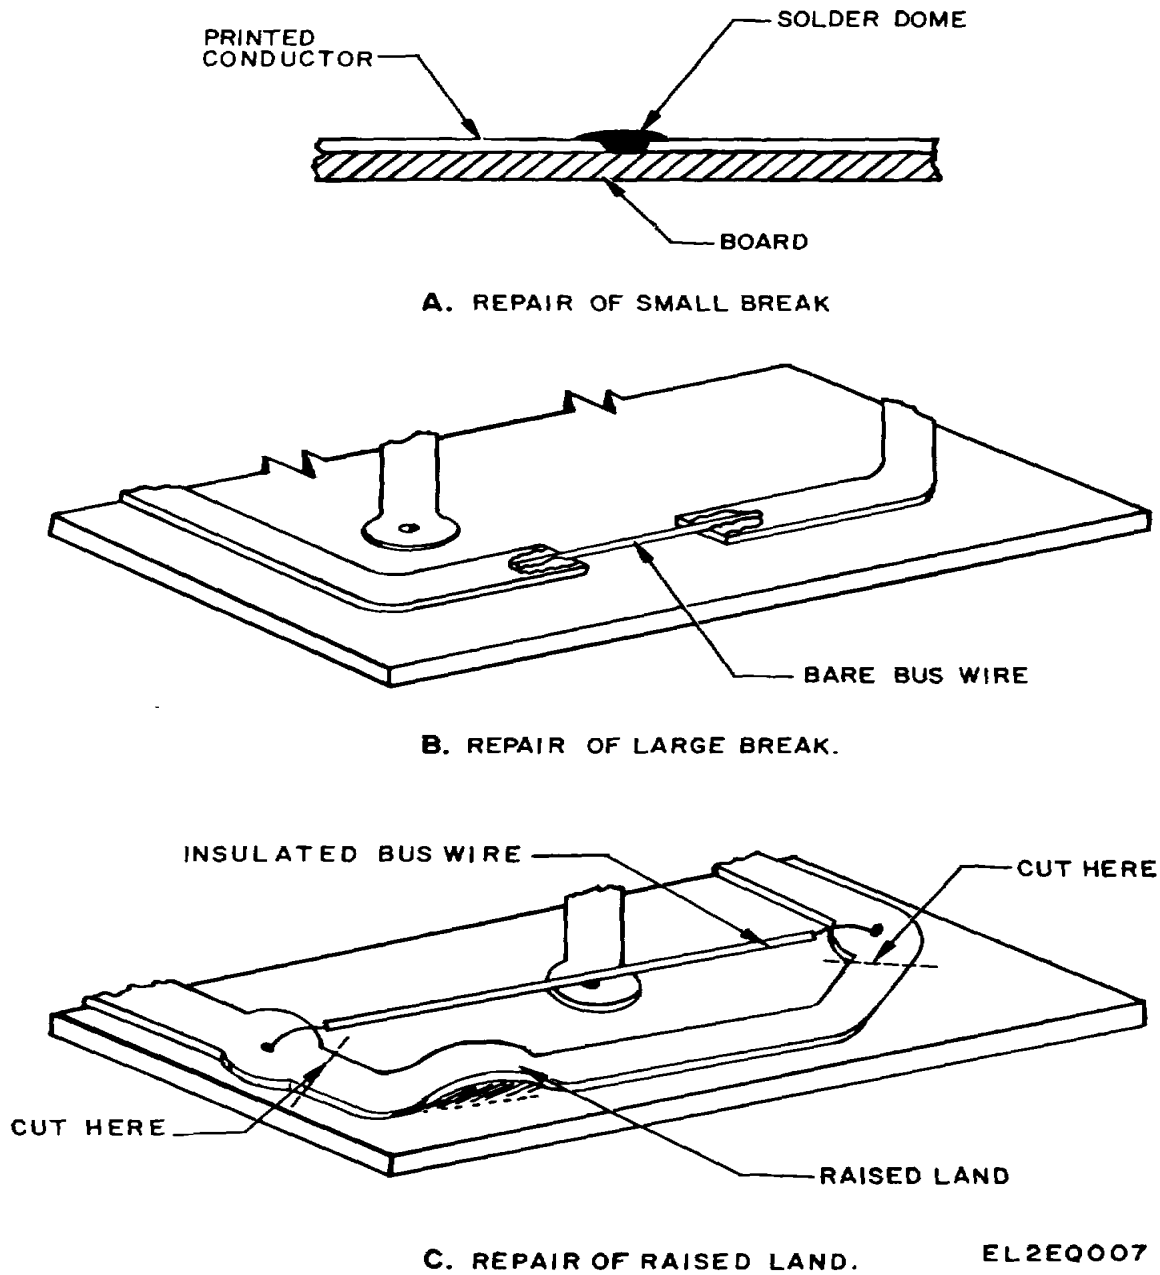

Figure 3-6. Printed
(1) If the break is small, solder with a small dome configuration (see fig. 3-6, A).
(2) If the break involves a short run, cut a piece of tinned bus wire slightly longer than the break. Solder-tin place the bus wire in the center of the conductor straddling the break (see fig. 3-6, B). Hold with soldering aid during and after soldering until the solder sets. Then remove excessive rosin with alcohol.
(3) Where the lands lift from the board (see fig. 3-6, C), cut at the joiner of the pad and land as shown. Strip the foil with a tweezer until the point of cut is reached. In the case of a circuitous conductor as shown, make the repair with plastic-insulated bus so as not to short out the intervening circuitry. However, this type of repair should only be made where the circuit is not critical.